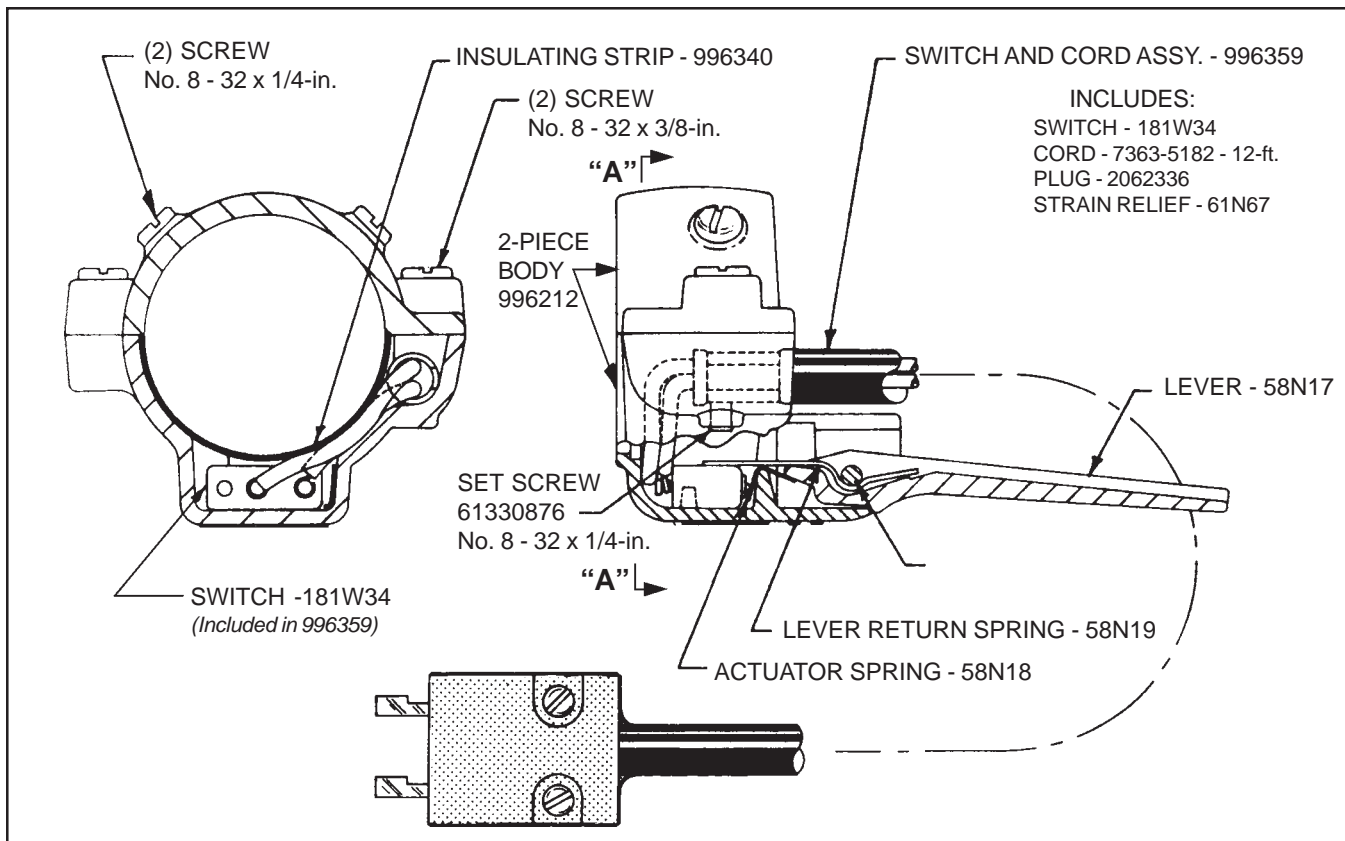

Fig. 4 - Lever Switch Assembly/12-ft. Cord, P/N 996356
If part replacement on the lever switch assembly is necessary, refer to Fig. 4 and separate the two halves of the switch body by removing the two slotted No. 8-32 x 3/8-in. screws. Then proceed as directed below. You can pull back the rubber band off the torch handle and cut the plastic tape wrappings about the service lines for convenience but it is not necessary unless the switchcord replacement is also involved
4. As illustrated in Fig. 4, place in position the actuator spring, lever, and lever return spring in that order.